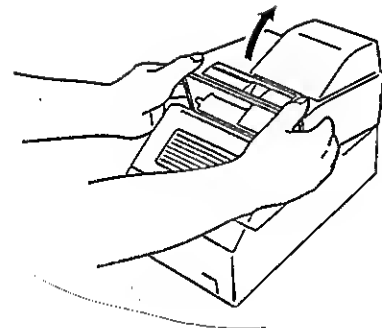

Fig. 2
- 2) Remove the paper cover by lifting up on both edges of the paper cover (Fig. 2).